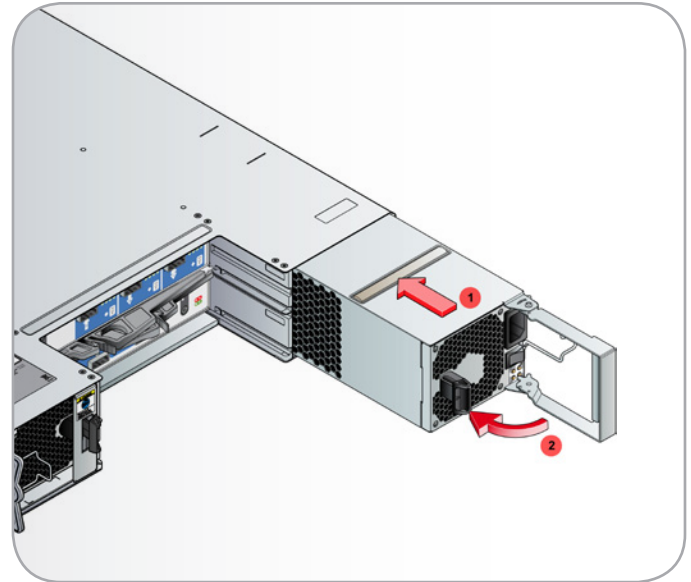

Fig. 32 - Inserting the Power Cooling Module
2. Slide the module partially into the enclosure (Fig. 32, Item 1).
3. Continue to push the module until it just begins to seat, grasp the handle and close it until the latch engages. This action will grab the latching mechanism on the side, and seat and secure the PCM. (Fig. 32, Item 2.)